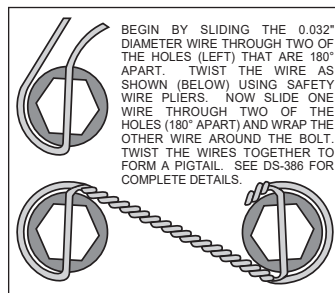

Figure 3. Safety Wire Diagram
- Install the grease seal (11) by pressing into the backside of the hub (9), flush with the end of the hub, Photo 3.
- Orient the rotor (13) and the rotor adapter (12) as shown in Figure 1 and Photo 4. Attach the rotor to the adapter using bolts (14) and T-nuts (15). Using an alternating sequence, apply red *Loctite*® 271 to the threads, and torque to 220 in-lb. Safety wire bolts using standard 0.032 inch diameter stainless steel safety wire as shown in Figure 3. Refer to Wilwood's data sheet DS-386 (available at www.wilwood.com/Pdf/DataSheets/ds386.pdf) for complete safety wire installation instructions.
- Pack the small outer bearing cone (17) with high temperature disc brake bearing grease and install into hub (9). Slide the hub/rotor assembly onto the spindle. Secure using spindle washer (18) and OEM spindle nut, Photo 6. Install saved OEM nut lock (if any) and a new cotter pin (not included). Bearing adjustment: Tighten the nut while turning the hub. When there is a slight bind on the bearings, they are seated correctly. Back the nut off about 1/6 to 1/4 of a turn, or sufficiently to allow .001" to .007" end play. **WARNING:** Failure to back off adjusting nut could cause bearing to run hot and be damaged, which could cause the wheel to lock or come off.
- Screw dust cap (19) into hub (9), Photo 7. Friction created by the o-ring (20) on the dust cap keeps it from unscrewing. **NOTE:** The O.D. of the existing OEM spindle washer may be larger than the I.D. of the dust cap not allowing it to seat against the hub face. Therefore, use the spindle washer (18) supplied with the kit instead of the OEM washer.
- NOTE:** Please reference the caution statement at the beginning of the assembly instructions. Mount the caliper (21) onto the caliper mounting bracket (1) using bolts (22) and washers (23), as shown in Figure 1. Initially place one .035" thick shim (24) on each bolt between the caliper and the bracket, Photo 8. Temporarily tighten the mounting bolts and view the rotor (13) through the top opening of the caliper. The rotor should be centered in the caliper, Photo 9. If not, adjust by adding or subtracting shims (24) between the bracket and the caliper. Always use the same amount of shims on each of the two mounting bolts. **NOTE:** The end of each bolt must be flush with or slightly protruding from the head of the clinch nut, as shown in Figure 3. If necessary place spare shims between washer (23) and caliper mounting ear to achieve the proper clinch nut engagement. Once the caliper alignment and clinch nut engagement are correct, remove the bolts one at a time, apply red *Loctite*® 271 to bolt threads, and torque to 40 ft-lb. For an added measure of security, the bolts may be safety wired using standard 0.032 inch diameter stainless steel safety wire as shown in Figure 3. Refer to Wilwood's data sheet DS-386 (available at www.wilwood.com/Pdf/DataSheets/ds386.pdf) for complete safety wire installation instructions.
- Install the disc brake pads (25) into the caliper, with the friction material facing the rotor (13), Photo 10, and secure in place using pad retainer clip (26), Photo 11.